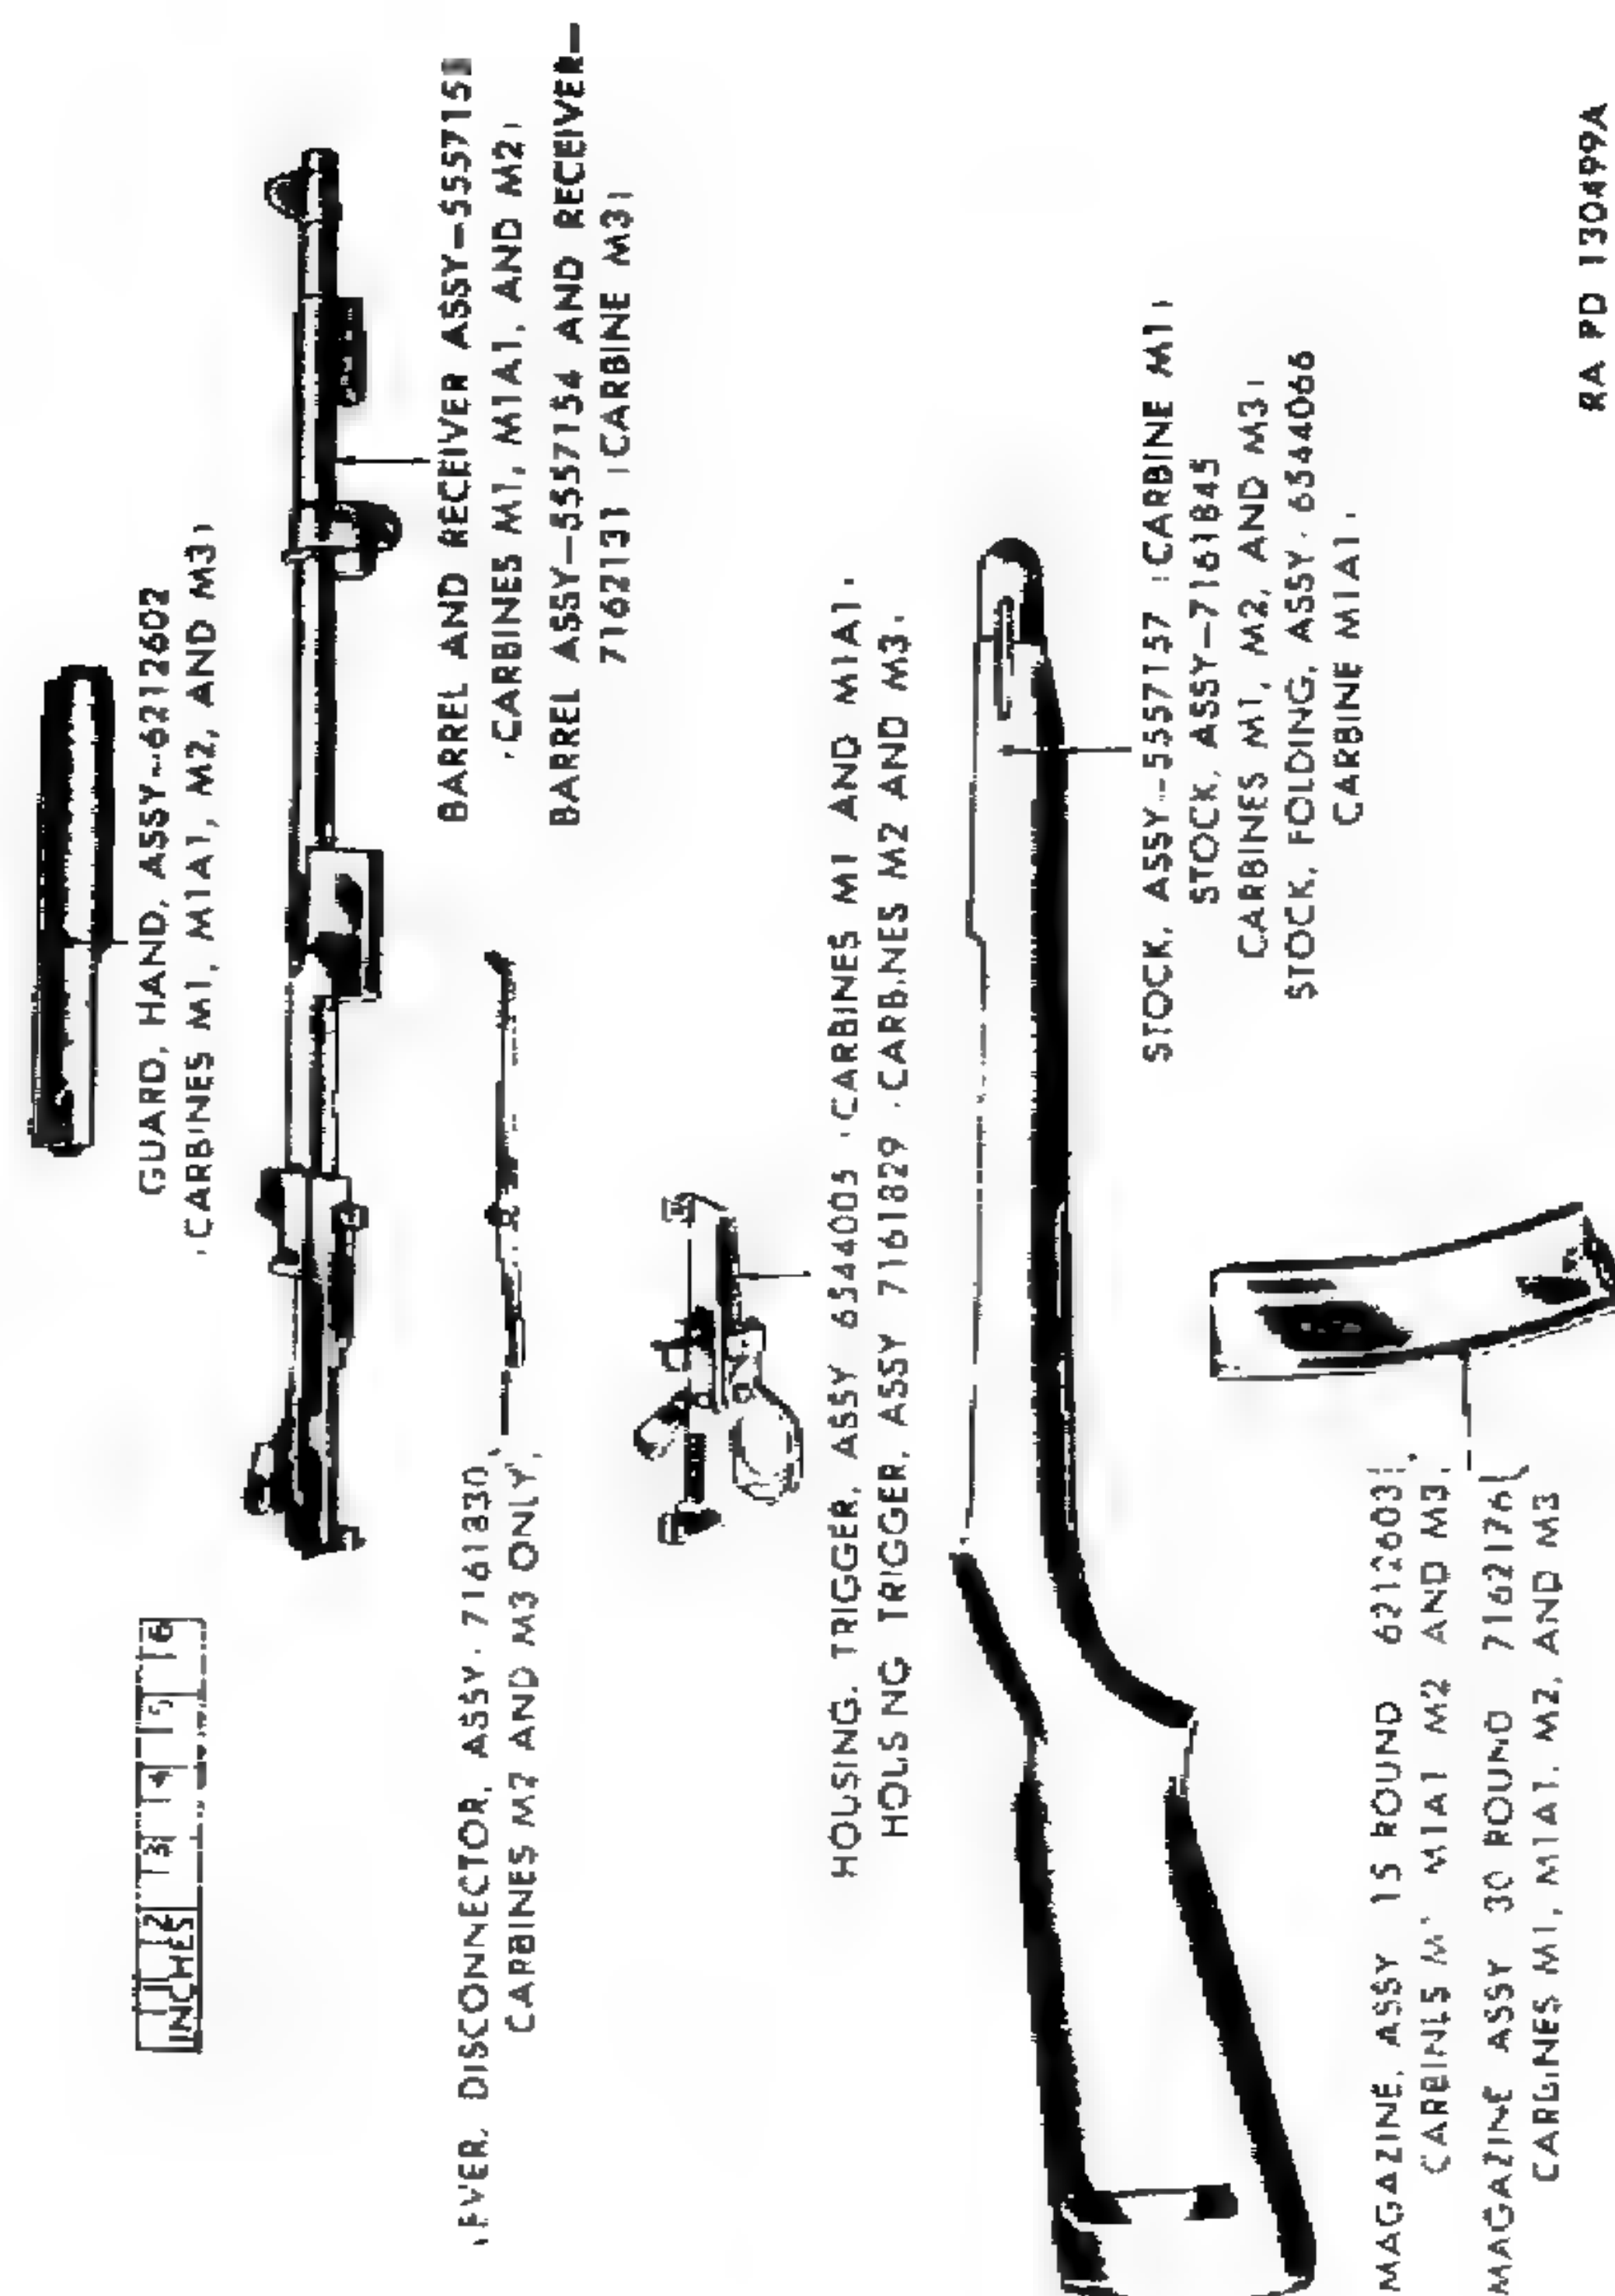

Figure 37. Assemblies comprising the weapon shown in relative positions.
b. In this manual, the main groups of the weapon are disassembled, inspected, replaced or repaired, and assembled. For information on removal and installation of groups, see FM 23-7. A group is a number of parts or assemblies, or both, which either function together or are intimately related to each other and should be considered together (fig. 37).